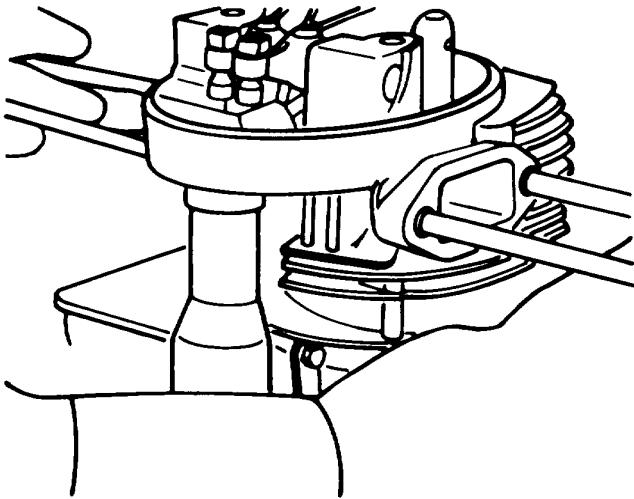

Figure A-12. Removal of Cylinder Head Nuts
(4) Remove the cylinder head nuts and pull off the cylinder head. (Figure A-12.)